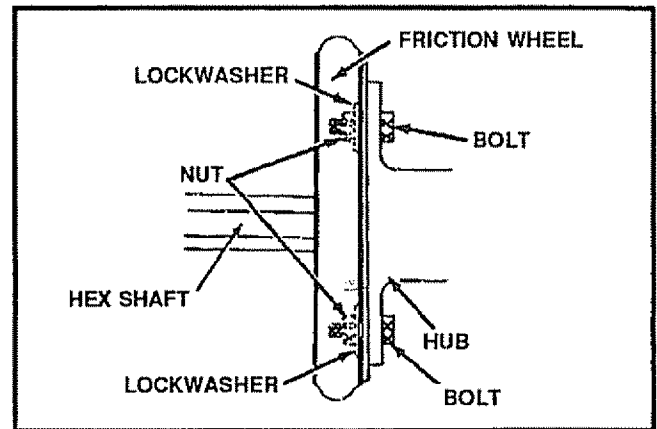

FIG. 32
- Stand the snow thrower up on the auger housing end (See Fig. 32).
- Remove the three (3) fasteners securing the friction wheel to the hub (See Fig. 32).